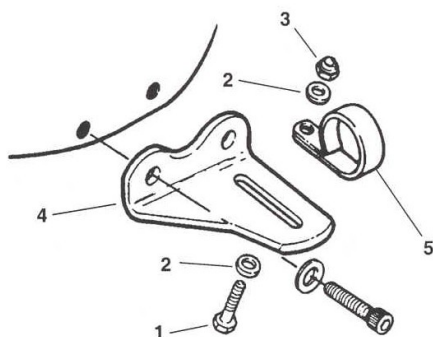

Figure 4
1. See Figure 4. To disassemble exhaust from motorcycle, remove 5/16-18x1-1/2 in. bolt (1), two 5/16 in. flat washers (2) and 5/16-18 locknut (3) from transmission mount bracket (4) slot and exhaust pipe mount clamp (5).
- ST Models with 2 Into 1 Dual Exhaust.** See Figure 4. Loosen, but do not remove, far right socket head screw (1) and washer (2) securing exhaust mounting bracket (3) to transmission. Slide oil pump cover (4) (slotted end) onto screw (1), between washer (2) and bracket (3). Tighten finger tight.
3. See Figure 4. Install 5/16-18 x 1-1/2 in. hex head bolt and 5/16 in. flat washer through transmission mount bracket slot and exhaust pipe mount clamp. Install 5/16 in. flat washer and 5/16-18 locknut. Do not tighten at this time.